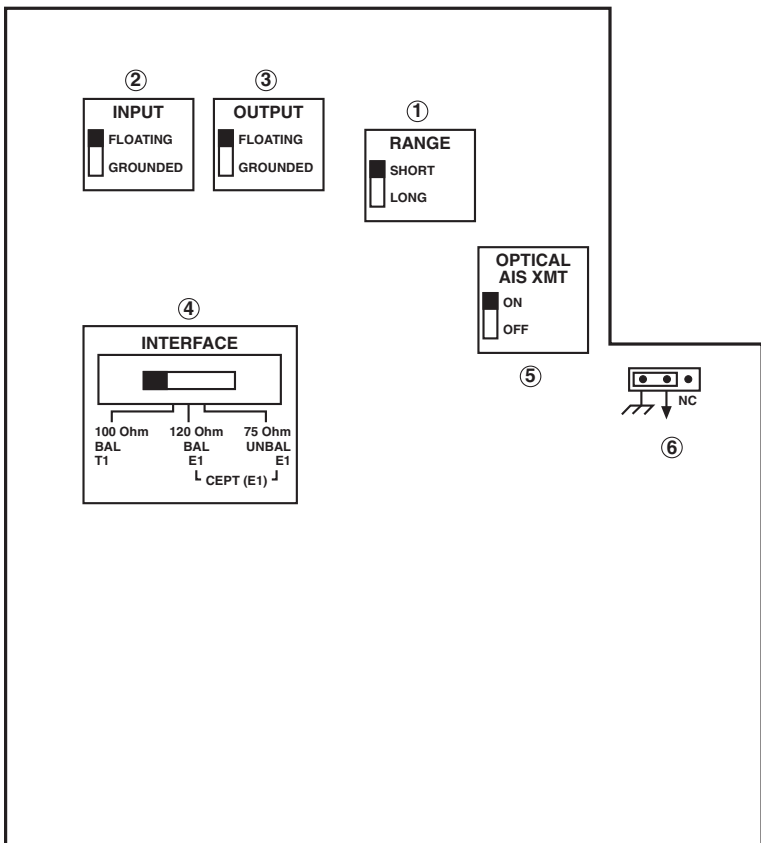

Figure 3-1. Location of Switches and Jumpers.
3. Identify the switches, according to Figure 3-1.
Before installing the Line Driver, set the internal switches according to your application (that is, electrical interface and optical link characteristics). The switches are located on the Line Driver board, as shown in **Figure 3-1**. Switch functions are also listed in **Table 3-2**.
The interface jumper (item 4 in **Figure 3-1**) selects one of three interface options:
Both Input and Output can be individually grounded by means of two 2-position GROUNDED/FLOATING switches (items 2 and 3 in **Figure 3-1**).
RANGE (item 1 in **Figure 3-1**) selects the optical output power coupled to the fiber, depending on the fiber core diameter. **Table 3-1** summarizes the optional output power available at the transmitter as a function of the wavelength and the type of fiber used.
In the event of a received optical signal loss, the Line Driver sends an all “ones” signal (AIS) at a nominal frequency of 50 ppm. When the optical signalling switch (item 5 in **Figure 3-1**) is OFF, the AIS signal is only sent to the electrical interface of the local unit. When the switch is set to ON, an AIS optical signal is also sent to the remote unit via the transmit optical link.
This jumper (item 6 in **Figure 3-1**) disconnects (NC) or connects the chassis ground to electrical ground.